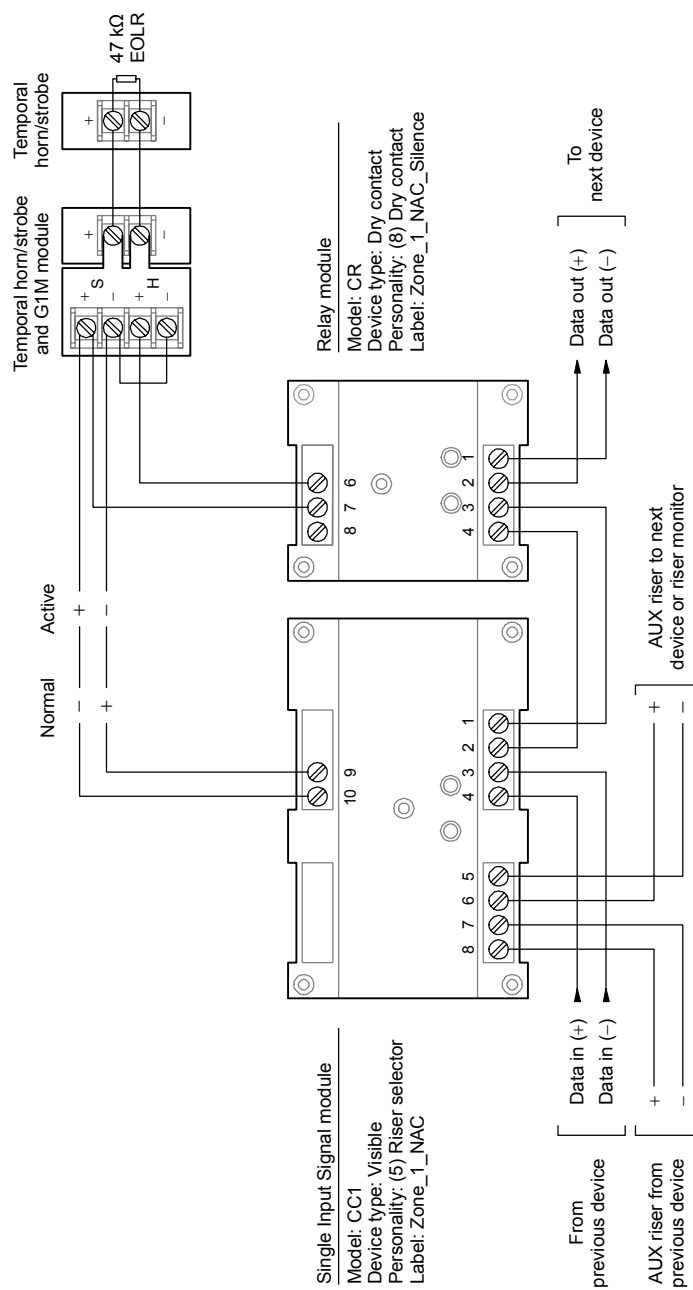

Figure 5-4: Typical SIGA-CC1 NAC wiring
3-SSDC(1)	<p>Signals are synchronized for all NACs on the Signature data circuit when you use SIGA-CC1S or SIGA-MCC1S modules and Genesis or Enhanced Integrity notification appliances. See Figure 5-3.</p> <p>The system does not synchronize Signature data circuits on separate 3-SSDC(1) modules in one panel or between panels.</p> <p>Signals are synchronized for a NAC on the Signature data circuit when you use SIGA-CC1 and SIGA-MCC1 addressable NAC modules, a Genesis Signal Master synchronization module, and Genesis or Enhanced Integrity notification appliances. [1] Separate NACs on the Signature data circuit are not synchronized. See Figure 5-4.</p> <p>Configure the audible notification appliances for temporal or steady output as desired.</p>
Figure 5-4 shows a single SIGA-CC1 switching an NAC on or off. The G1M module provides signal synchronization for the temporal horn/strobe appliances.